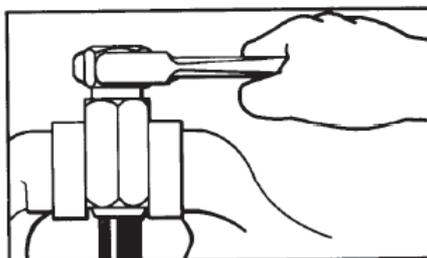

Figure 1 Removing Coupling Insert
- a. Clamp the ferrule in a vice and screw the insert from the hose in an anticlockwise direction (Figure 1).